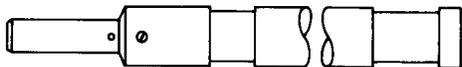

Fig. 10—436A Plug
2.10 436A: The 436A (Fig. 10) is a coaxial-type plug designed for solderless shield connections to the connecting cable by means of a sleeve. The 436A plug is designed to be used with the 552A, 555A, and 557A jacks and is used in the L4 Coaxial System.